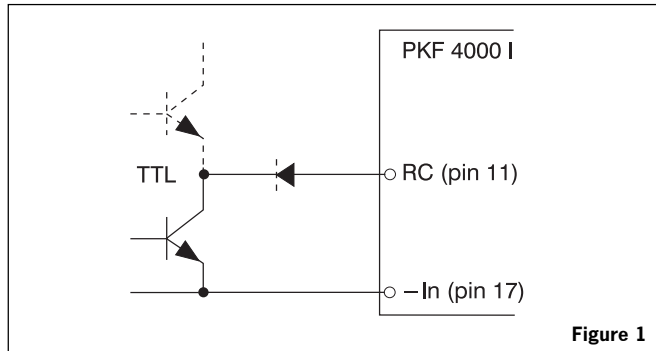

Figure 1
Turn-on or turn-off can be realized by using the RC-pin. Normal operation is achieved if pin 11 is open (NC). If pin 11 is connected to pin 17 the power module turns off. To ensure safe turn-off the voltage difference between pin 11 and 17 shall be less than 1.0 V. RC is TTL open collector compatible output with a sink capacity >100  $\mu$ A (see fig. 1).